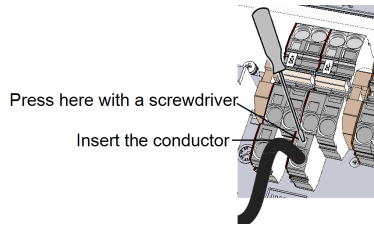

Figure 24: DC Spring-clamp terminals
- Insert the wire into the top opening (see *Figure 24*).